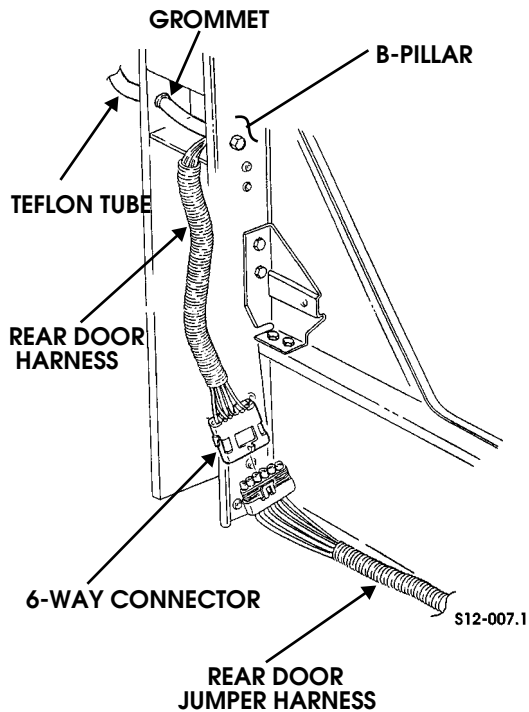

Figure 12-128: Rear Door Harness and Rear Door Jumper Harness
4. Disconnect 6-way harness connector from power windows and door locks rear door jumper harness connector (Figure 12-128).